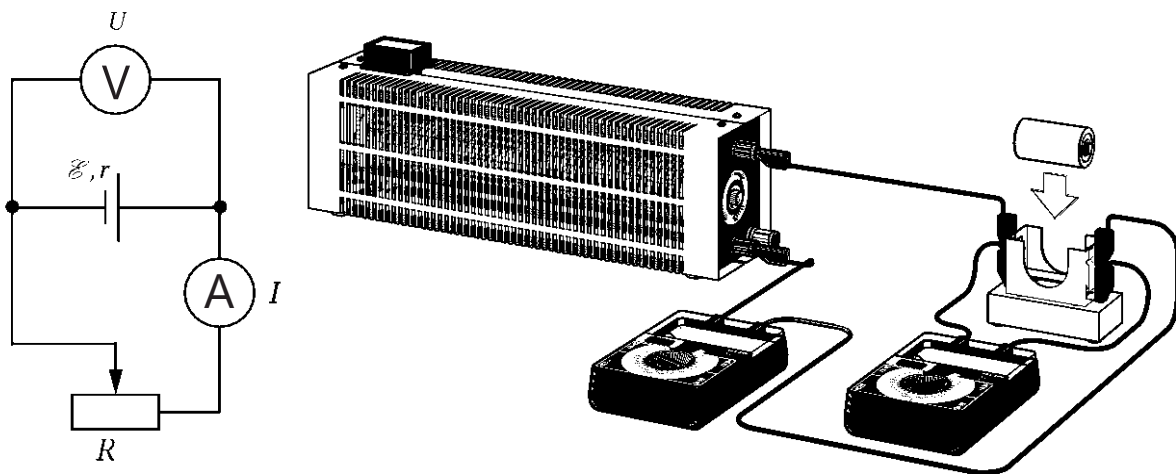

Figure 412.2 Experimental setup
Multimeters LD analog 20 can be used as a voltmeter and ammeter in the experiment. Before connecting devices to the circuit, select the measurement limits as specified below (Fig. 412.2). The operating mode (current or voltage measurement, ranges, AC or DC type) can be set by turning the switch.
2. Assemble the circuit according to Fig. 412.2: connect the battery (power source), the ammeter, and the rheostat in series but do not close the circuit yet.
3. Connect the voltmeter to the sockets of the battery (Fig. 412.2).